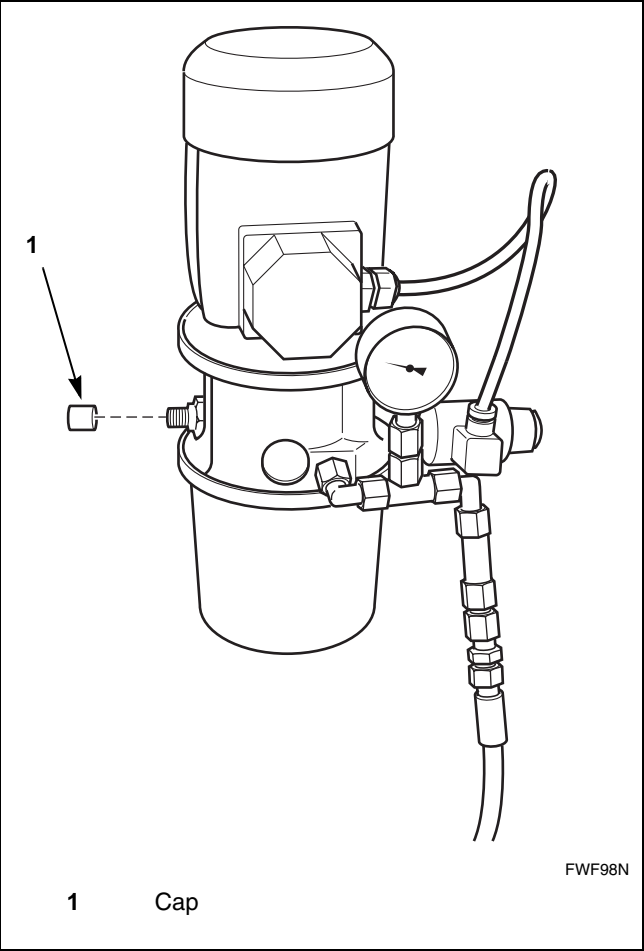

Figure 11
- 1. Remove cap from side of hydraulic pump. Refer to *Figure 11*.